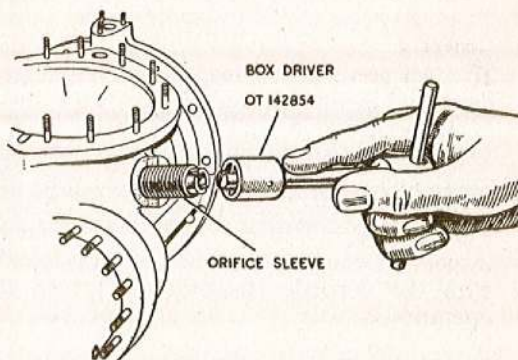

Fig. 12. Restricting orifice removal, use of special box driver
2. Unscrew the restricting orifice sleeve by inserting the special box key driver OT.142854 in the groove of the sleeve (fig. 12).